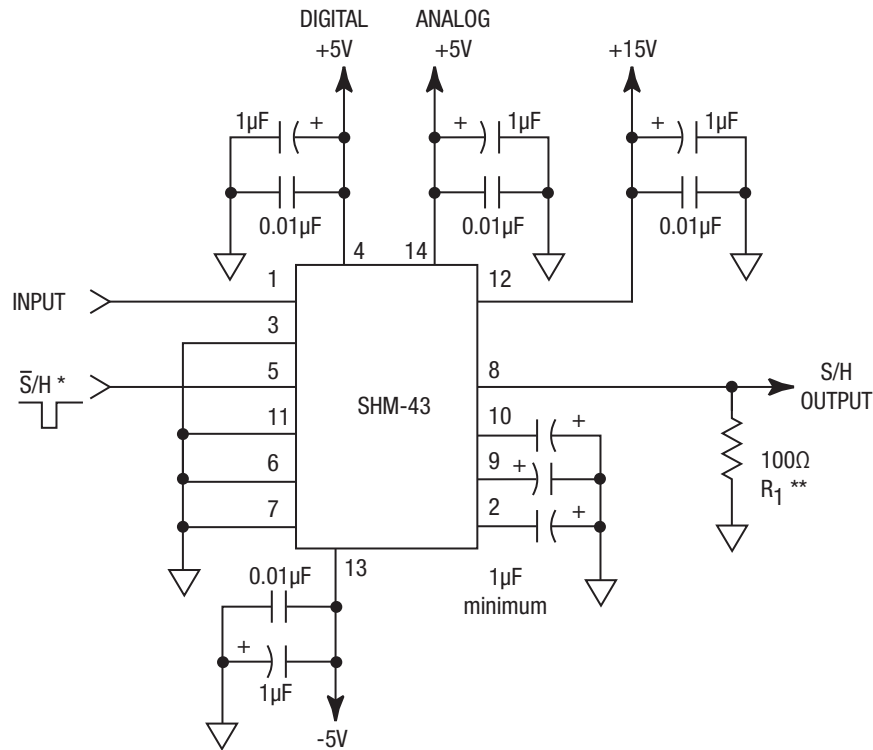

Figure 2. Test Circuit Connections
- Additional bypass capacitors are necessary, because of internal high switching speeds, and high slew rates of internal components. REF BYPASS (pin 2), +5 BYPASS (pin 9), and -5 BYPASS (pin 10) are internal connections that must be bypassed with a minimum 1µF tantalum capacitor mounted as close to the pin as possible. The polarity of the connections are shown on the test circuit drawing, Figure 2.